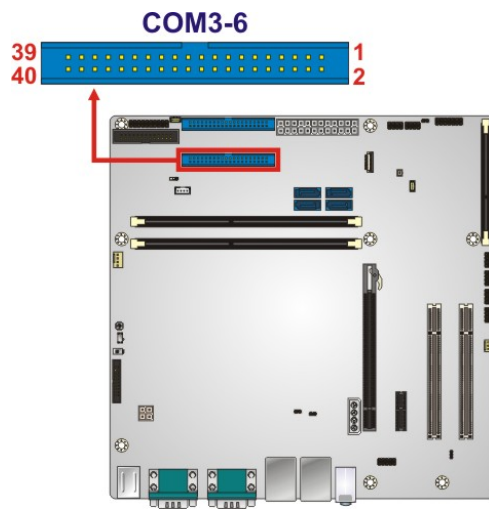

Figure 3-18: Serial Port Connector (COM3~COM6) Location
- CN Location:** See **Figure 3-18**